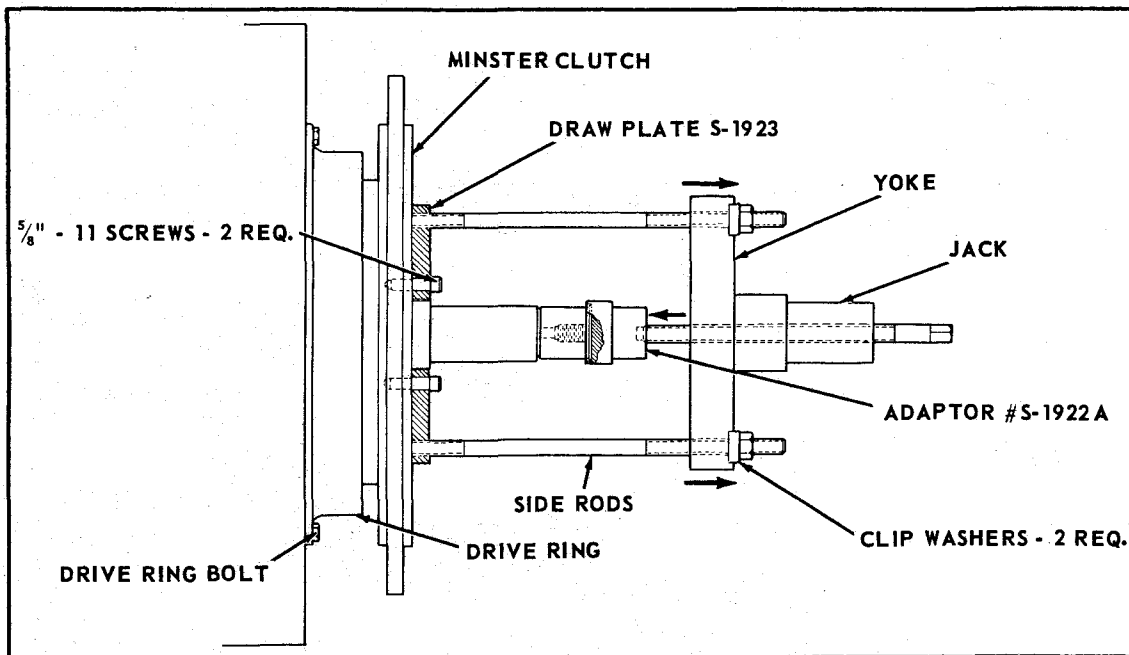

Figure 14
- B. Remove drive ring bolts from flywheel. Clutch can now be removed from shaft. (See Figure 14 for suggested method)